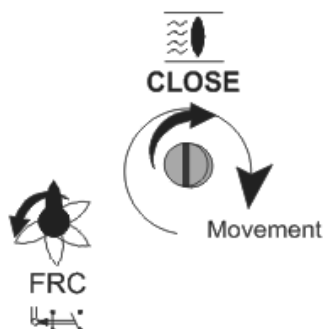
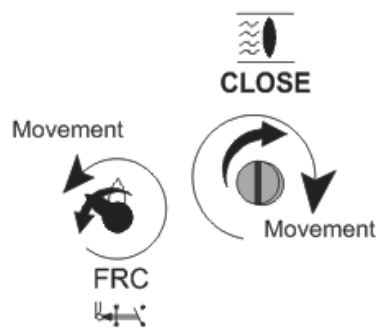

Figure 12.2-3
Figure 12.2-4
- Turn **U** spindle clockwise (Figure 12.2-3) until **Z** spindle turns Counter-clockwise (At this moment FRC microswitch triggers). Just before FRC microswitch was tripped, **Z** red arrow should be pointed to vertical: When **Z** spindle (Red arrow) turns to left the FRC microswitch is tripped (Figure 12.2-4).